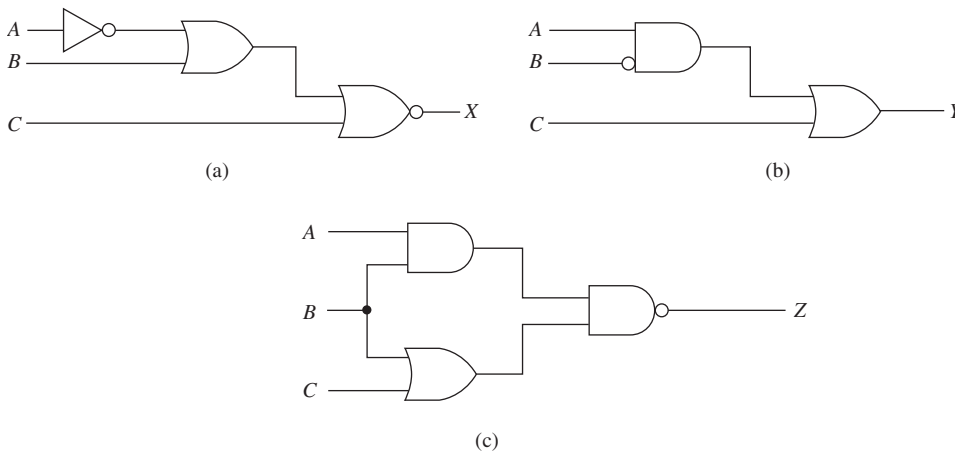

Figure P33
- 33. Redraw the logic circuits of Figure P33 to their equivalents *using only* NOR gates.